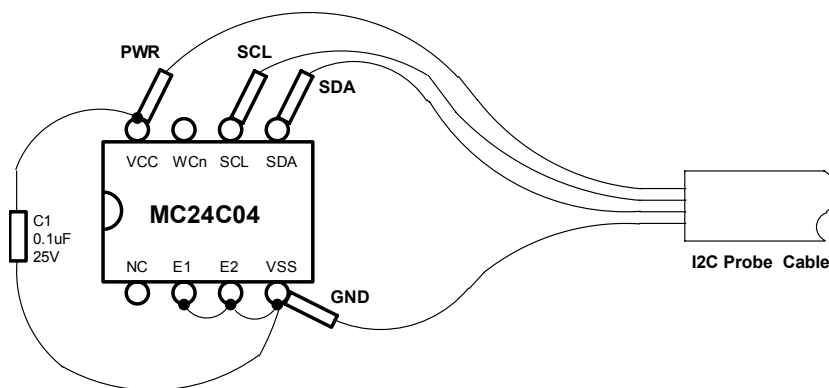

Figure 1. Connections to M24C04 I2C
1. Connect the M24C04 EEPROM to the JI-300 as shown in Figure 1: